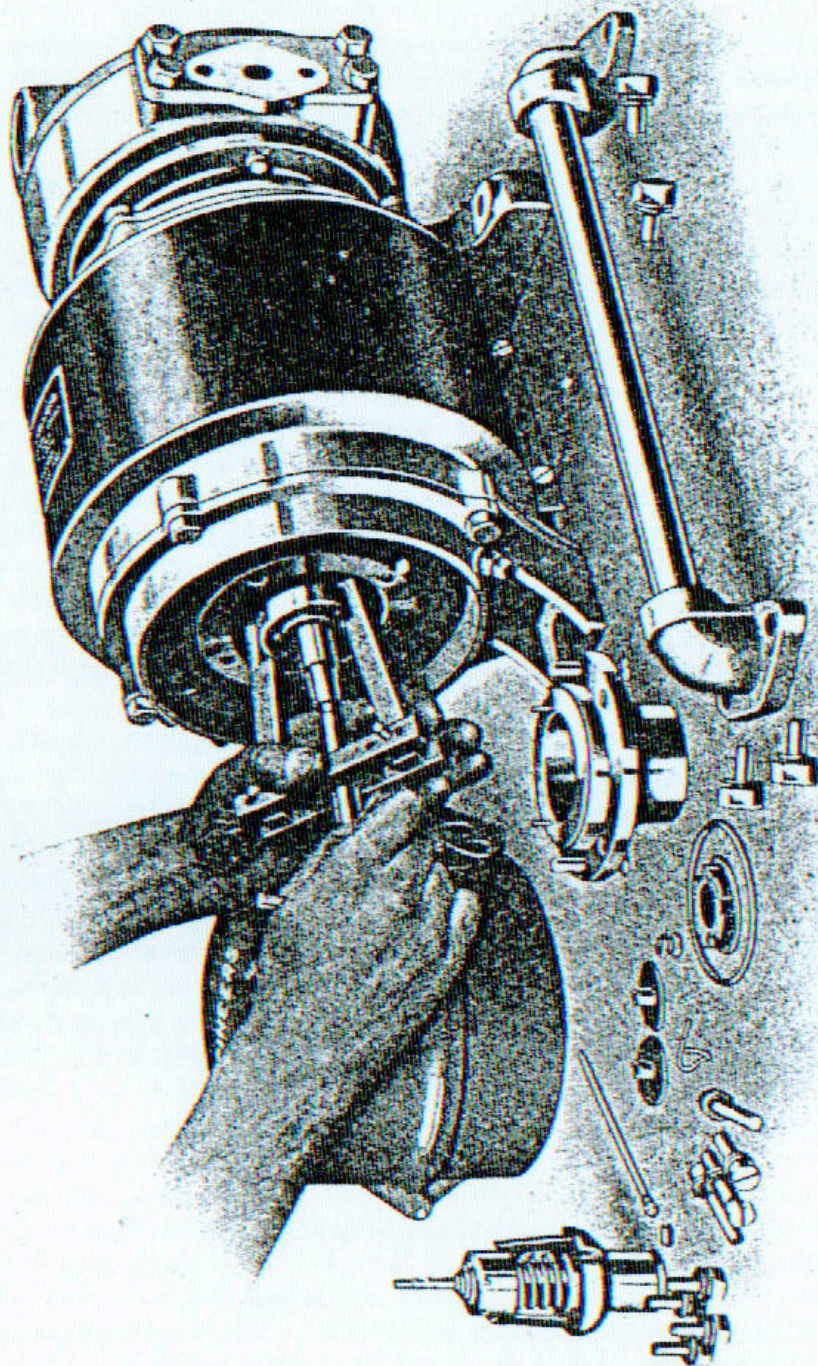

FIG. 3.
10. Using the "claws" instead of the bolts, apply the extractor to the ball-bearing and draw it off the shaft. Remove the oil sleeve and deflector (41). (See Fig. 3.) If tight, remove with housing (29).
11. Unscrew bolts holding the governor-end housing (29), loosen by light blow with mallet applied through a screwdriver at the joint and remove housing. The rotor (46) is then exposed.
12. Now turn to the turbine end of machine and unscrew the bolts securing the turbine-end housing (33) and loosen the housing by a light blow with a copper mallet on the turbine case. The rotor is then ready for removal.